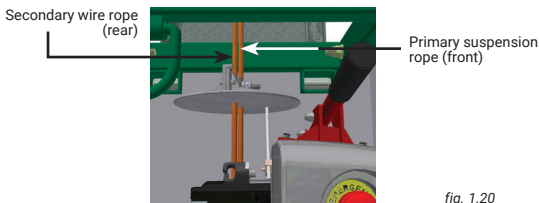

fig. 1.20
- 24- Insert the primary suspension rope (fig. 1.20) in the traction hoist. Refer to the traction hoist owner's manual for instructions.
- 26- Insert the secondary wire rope (fig. 1.20) in the traction hoist. Refer to the traction hoist owner's manual for instructions.